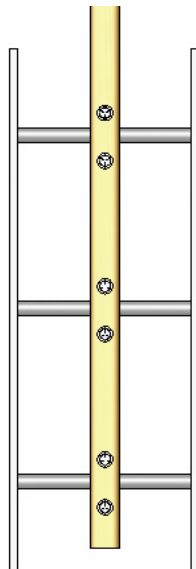
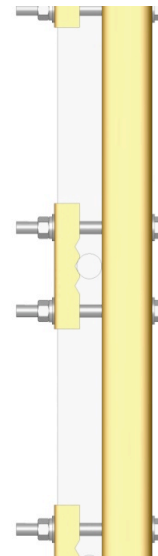

Fig. 2
Fig. 3
- Adjust the Ladder Stanchion position to center it into the middle of the ladder rungs (see Fig. 2). Once centered, raise Stanchion until ladder rung becomes captured in one of the v-shaped cuts in the rung clamp (see Fig. 3). NOTE: It is preferred that the rungs be captured in the center v-cuts of the rung clamps, but it is not required. Because the spacings of rungs is often variable, not all 3 rungs will be in the some v-cut of the 3 clamps, try and raise or lower the stanchion and adjust the rung clamps until all three rungs become positioned into one of the v-cuts.